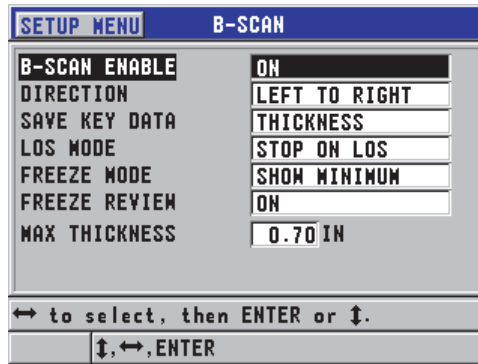

Figure 9-4 Changing B-scan parameters
The B-scan can be actively configured from the **B-SCAN** screen (see Figure 9-4 on page 162), which is accessible by pressing [SETUP], and then selecting **B-SCAN** in the menu.
1. In the **B-SCAN** screen (see Figure 9-4 on page 162), set **SAVE KEY DATA** to **THK + B-SCAN**.